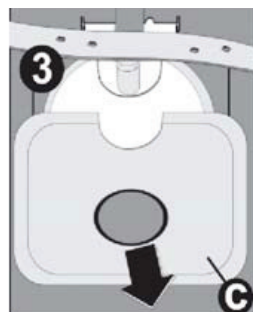

fig 11
4. Remove the base filter from the dishwasher compartment (figure 11).